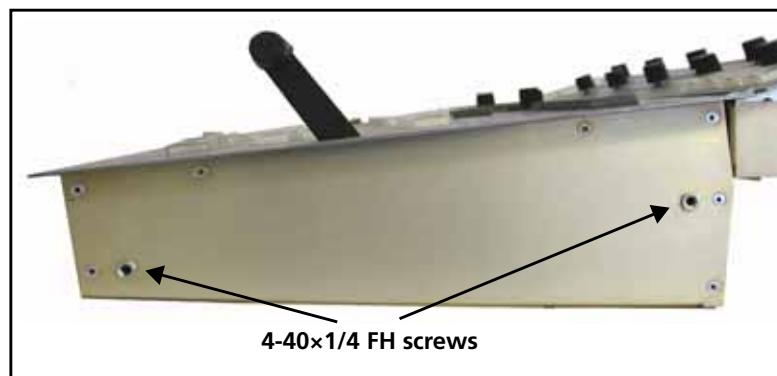

Figure 2-11 Main Control Panel Side Screws
- 4 Replace the middle two screws on each side of the main control panel with 4-40x1/4 FH screws (see Figure 2-11).